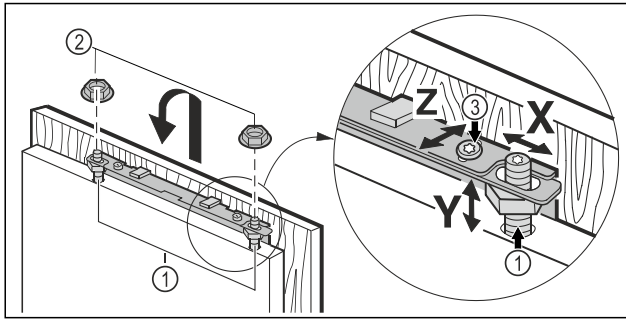

Fig. 45
- ▶ Hook the unit door onto the adjustment bolts Fig. 45 (1) and screw the lock nuts Fig. 45 (2) loosely onto the adjustment bolts.
- ▶ Align the unit door in height Y and in the lateral inclination: Adjust the adjustment bolt Fig. 45 (1) with a screwdriver.
- ▶ Tighten the lock nuts Fig. 45 (3).